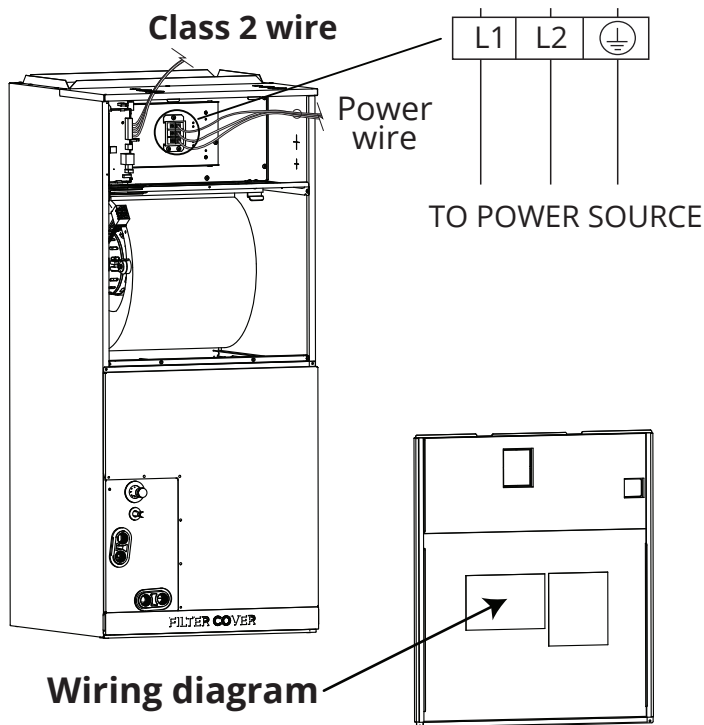

Fig. 7.3
4. Properly connect the wiring by securely fastening the u-lug or ring terminal of each wire to the corresponding terminal on the terminal block. Refer to the unit serial number and the wiring diagram located on the electric control box cover (Fig. 7.3). **NOTE: For more detailed illustrations of the different variations of wiring connections, depending on your specific application, please refer to the wiring diagrams on pages 47-50.**